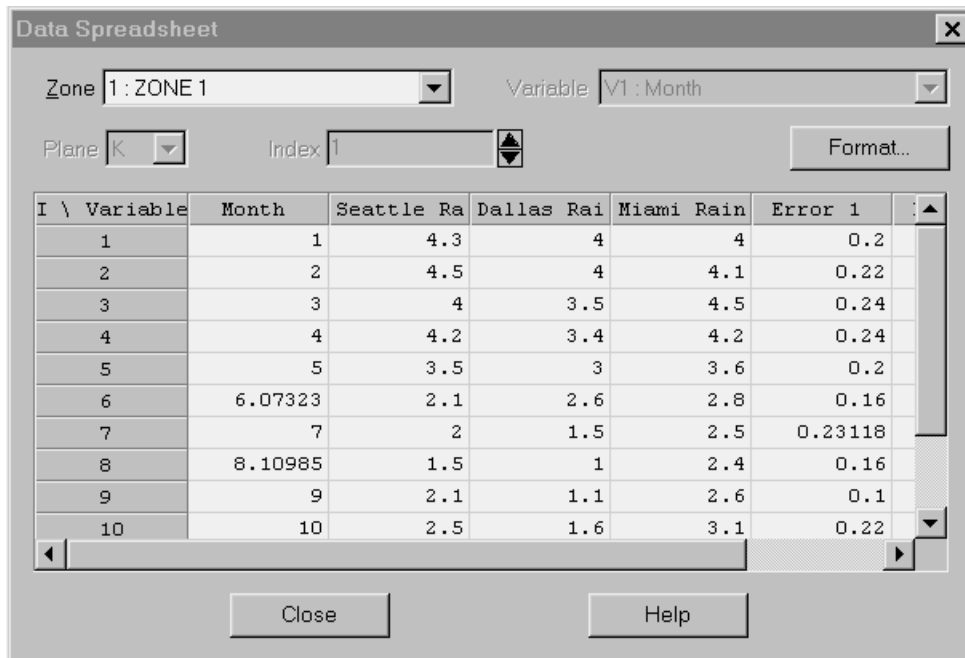

Figure 24-1. The Data Spreadsheet dialog, accessed under the Data menu. The dialog displays the contents of file `tec90/demo/plr/rain.plt`.
1. From the Data menu, choose Spreadsheet. The Data Spreadsheet dialog appears (see Figure 24-1).